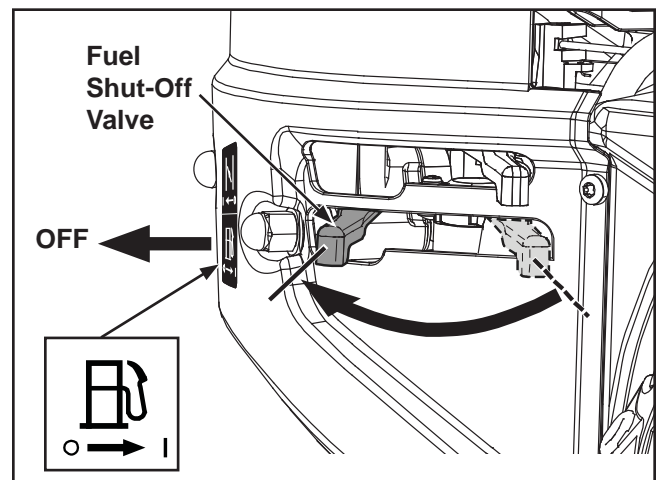

Figure 9-2. Shut-Off Fuel Valve.
1. Push fuel shut-off lever to the left to close the fuel valve. See Figure 9-2.